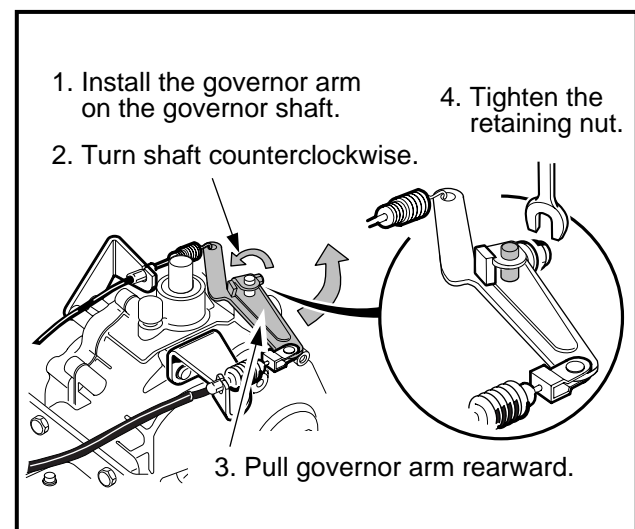

Figure 16-97 Governor Arm
9. Install governor lever arm on governor shaft (**Figure 16-97, Page 16-40**). With the governor lever arm loose on the governor shaft, turn the governor arm shaft counterclockwise until it stops. Then pull the governor lever arm rearward until the carburetor throttle is in the “wide open throttle” (WOT) position (**Figure 16-97, Page 16-40**).
10. While holding the arm and shaft in the fully counterclockwise position, tighten the governor arm lever nut to 35 in-lb (4.0 N·m) (**Figure 16-97, Page 16-40**).